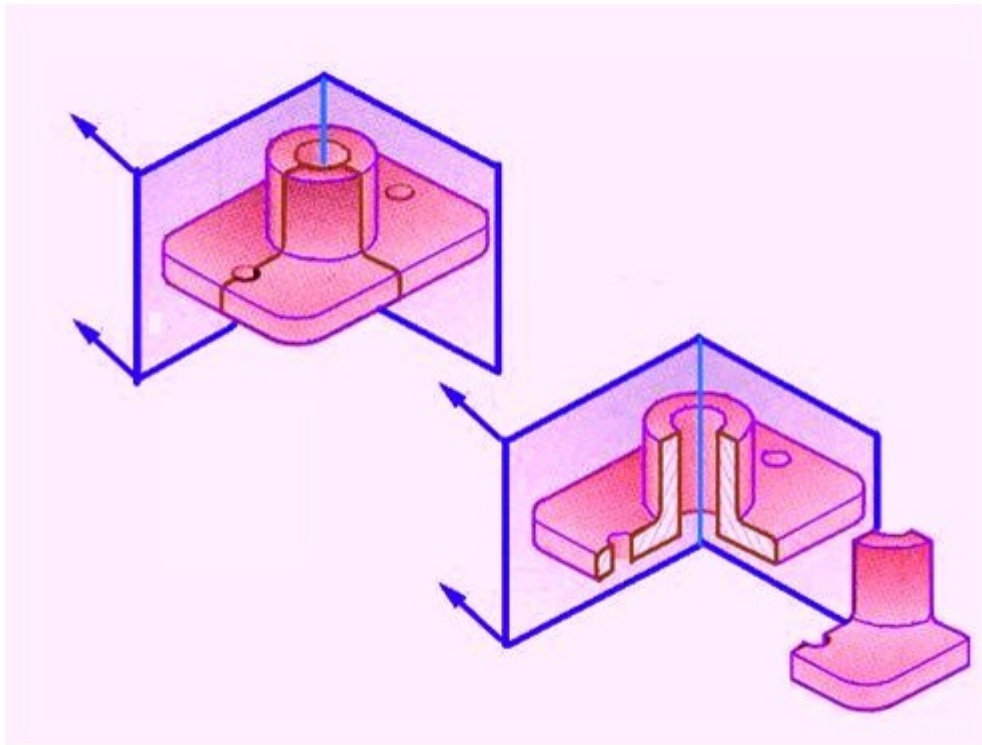

Figure 2. Illustrating a half section view
- (b) Half section view, where the section plane go half-way through the object. Example shown in figure 2.